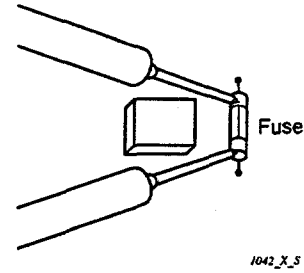

Fig. 11
⑥ Continuity of fuse on P.C.B. Ass'y
- Check for continuity using a multimeter as shown in Fig. 11.